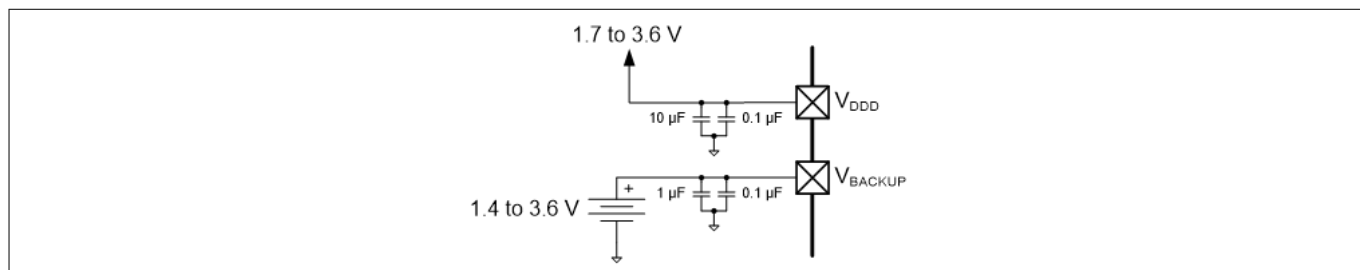

Figure 17 Separate Battery Connection to V_{BACKUP}
- V_{BACKUP} : the supply for the backup domain, which includes the 32-kHz WCO and the RTC. It can be a separate supply as low as 1.4 V, for battery or supercapacitor backup, as Figure 17 shows. Otherwise it is connected to V_{DDD} . It powers I/O port 0.